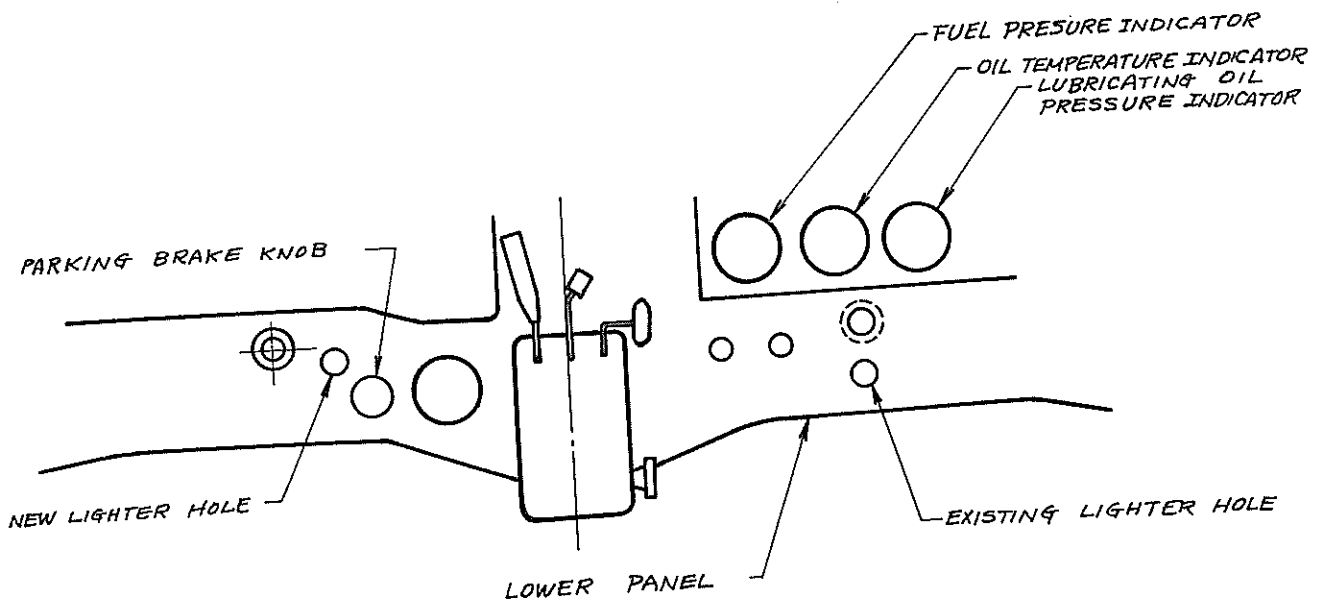

FIG. 1
5. DESCRIPTION : Cigar lighter installing location to be changed as shown in figures 1 and 2.